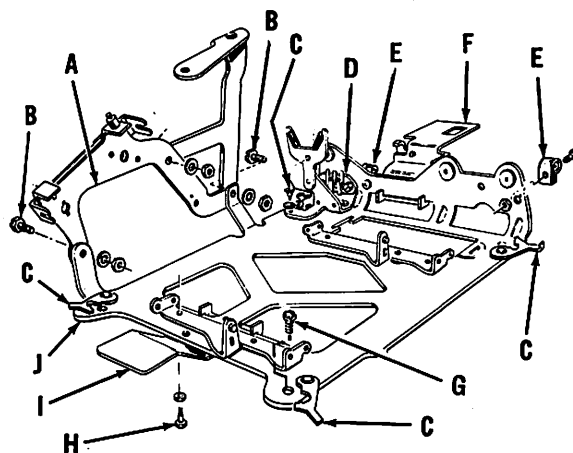

Fig. IX-7
3. Disconnect the three wires from the line cord receptacle D, Fig. IX-7.
4. Break the connection in the wire leading from the handle switch to the motor and remove the two handle switch wires from brackets E, Fig. IX-7.
5. Remove two screws B, Fig. IX-7 and bracket A, Fig. IX-7.
6. Turn the machine over and remove four screws G, Fig. IX-7 and sub-base J, Fig. IX-7.